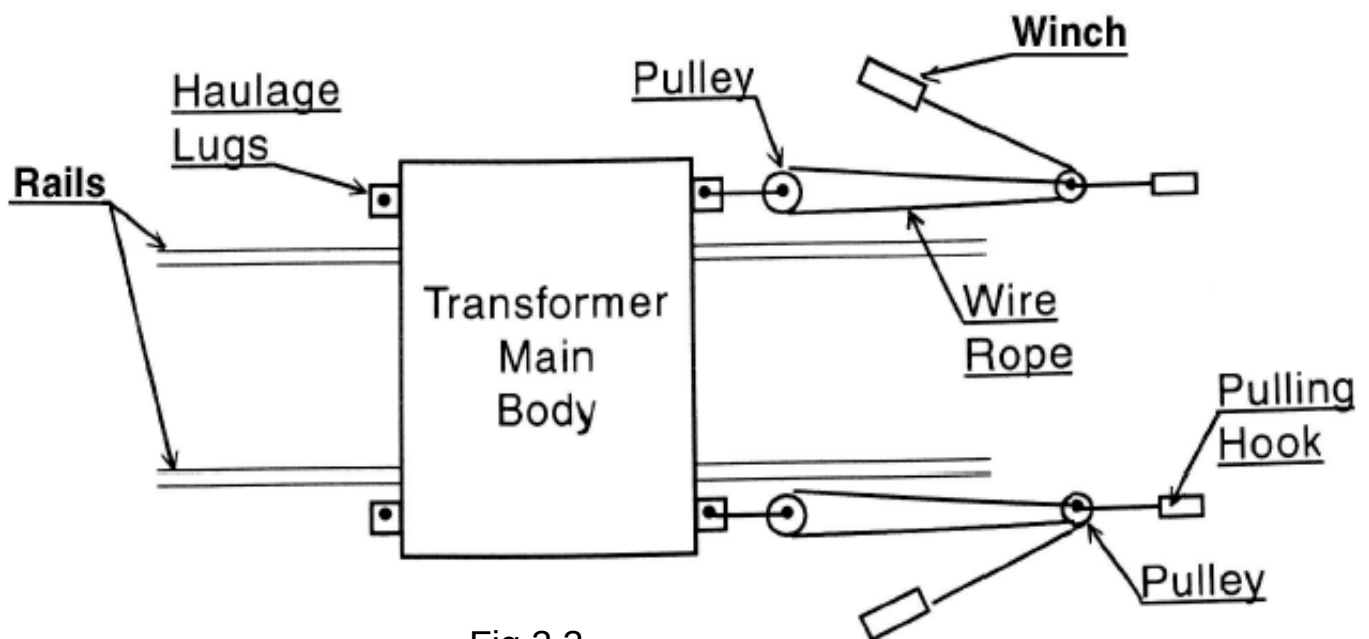

Fig 3.3
- The transformer must be pulled by using slings and winches as shown in Fig. 3.3. Use only the specified haulage lugs for pulling. Pulling capacity of winches should be more than $(\text{Main body weight} \times 0.15/4)$ tons. Pulleys should have a capacity of $(\text{Main body weight} \times 0.15/2)$ tons.